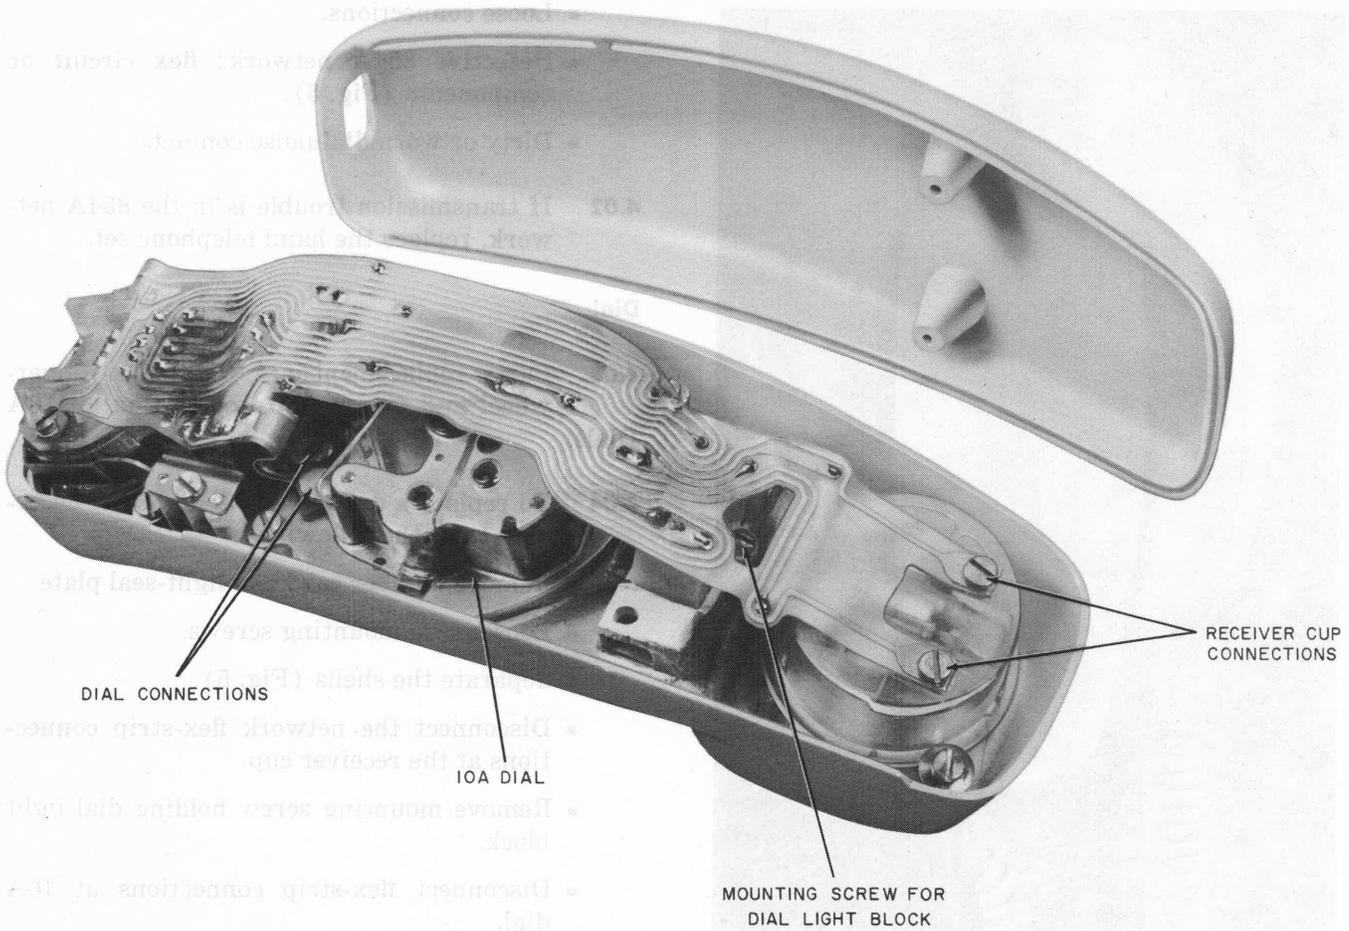

Fig. 5 — Interior of 220A Hand Telephone Set
- Defective 854A network; flex circuit or components (Fig. 5).
- Separate the shells (Fig. 5).